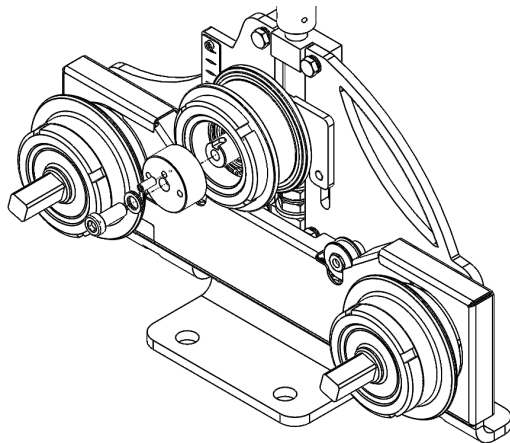
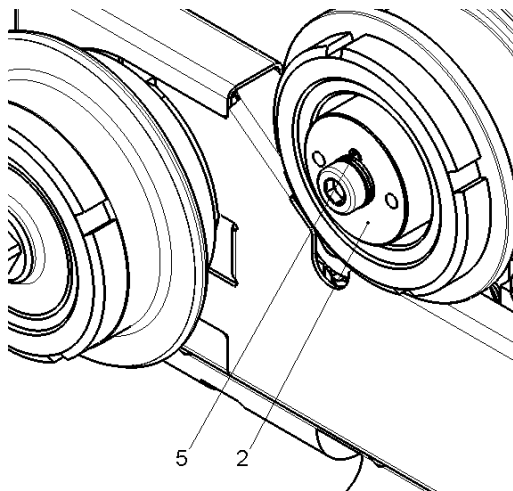
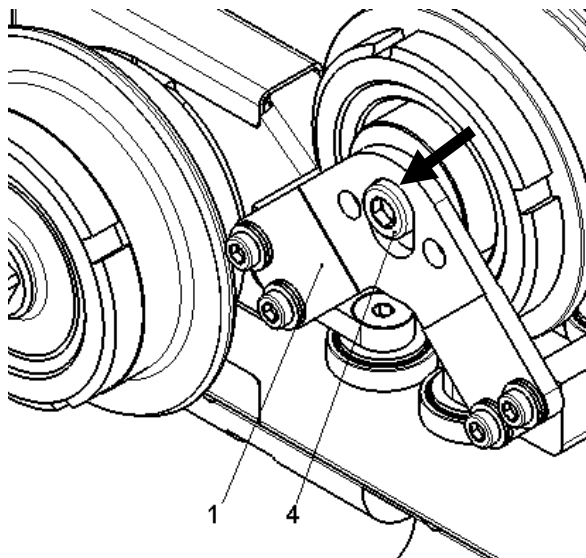
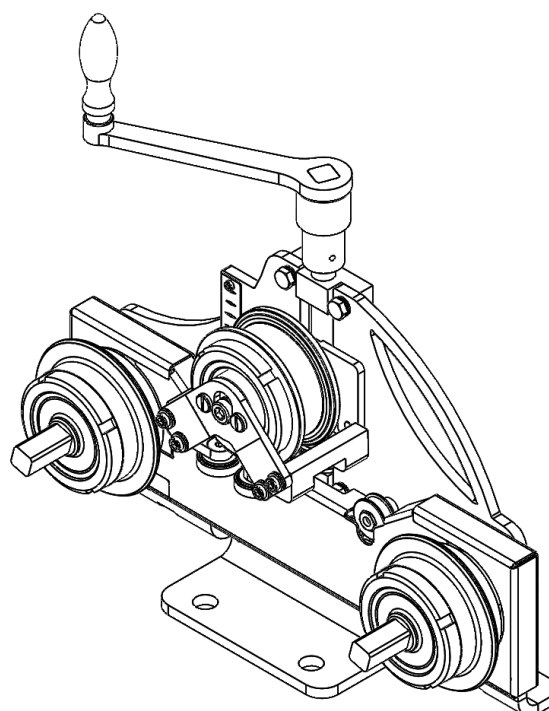

Fig. 9: Installation of additional guide unit socket
Fig. 11: Grub screw (5) flush with socket (2)
Fig. 12: Installation of guide rollers (1)
Fig. 15: Bending device with additional guide unit for the production of vertical outer bends.
- Slide the socket (2) onto the axis of the upper roller. Screw in the threaded pin (5) to align the socket (2) flush, and mount the socket (2) with the Nord-lock washer (6) and cylinder screw (4) (see Fig. 9 to Fig. 11). These parts may remain on the bending device after installation has occurred. They do not interfere with the production of other bends.
- "Hang" the guide rollers (1) for the outer bend over the cylinder screw (4) and push them upward in order to fasten them to the socket (2) with the two flat head screws (3) (see Fig. 12 to Fig. 15).
It is essential to use the guide unit provided for vertical outer bends (see Fig. 9 to Fig. 15) in order to counteract deformation of the profile cross-section!
For the production of a vertical outer bend, install the additional guide unit supplied. (for installation, see Fig. 9 to Fig. 15). During bending, the data rail is additionally guided in the guide unit in order to limit the widening of the slot.